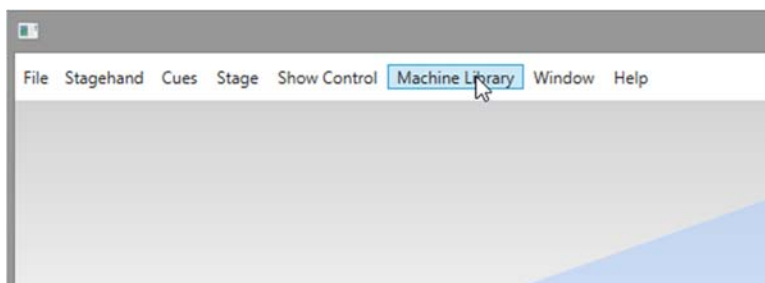

Figure 163
1. Click or tap the Machine Library menu (Figure 163).